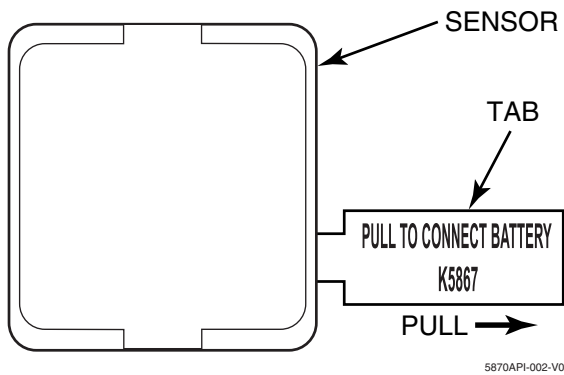

Figure 1 - 5870API Battery Tab
1. To cause the transmitter to transmit, remove the "PULL TO CONNECT BATTERY" tab (see Figure 1). (For additional transmissions, move or rotate the sensor.)